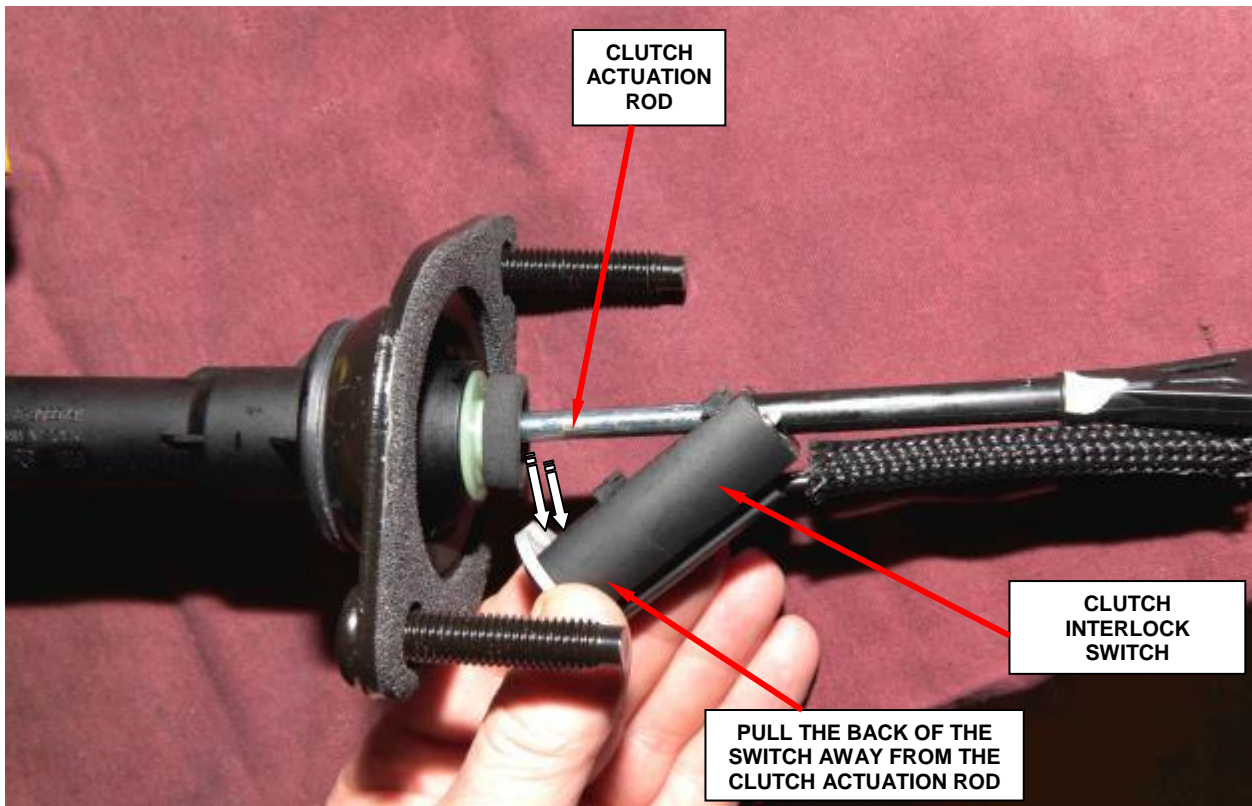

Figure 13 - Clutch Interlock Switch Removal
7. Pull the switch towards the clutch pedal slightly. Then pull the back of the clutch interlock switch outward, away from the clutch actuation rod (Figure 13).